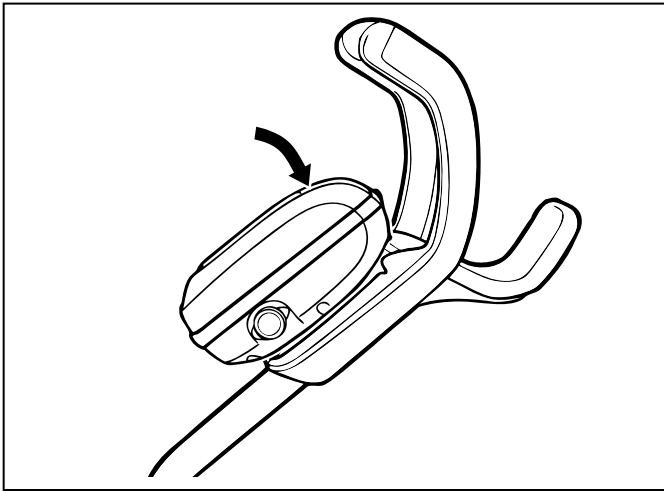

Figure 11. Attach the Control Unit onto Caddy
2. Press control unit onto the caddy hook until it snaps and locks into position (Figure 11).